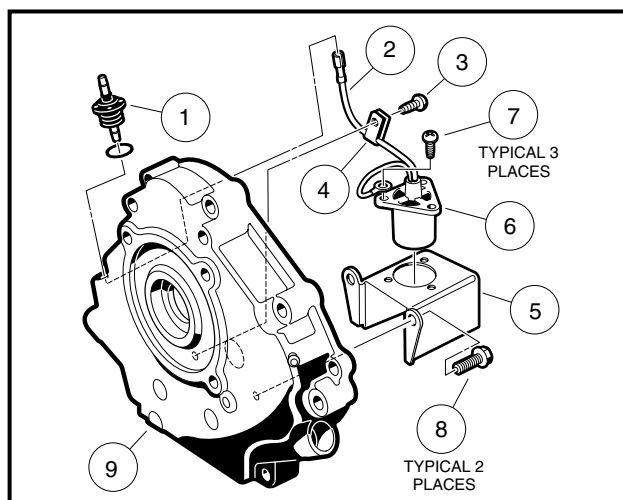

Figure 2-41 Oil Level Sensor
1. Disconnect the oil level sensor wire (2) from the cord connector (1) (**Figure 2-41, Page 2-21**).
2. Remove the screw (3) from the wire clamp (4).
3. Remove the two mounting screws (8) from the inside of the crankcase cover and remove the oil level sensor and bracket.
4. If necessary, remove the three screws (7) that hold the sensor to the bracket (5).
1. If the oil level sensor was removed from the bracket, install sensor (6) into bracket (5) and secure with three screws (7) (**Figure 2-41, Page 2-21**). Tighten to 17 in-lb (1.9 N-m).
3. Connect sensor wire (2) to cord connector (1).
4. Install screw (3) through wire clamp and into crankcase cover. Tighten to 30 in-lb (3.4 N-m).